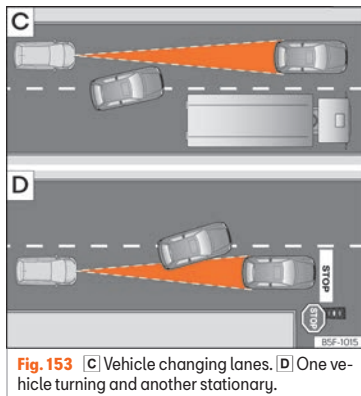

Fig. 153 [C] Vehicle changing lanes. [D] One vehicle turning and another stationary.
- Vehicles that move into your lane, a short distance from your vehicle » » » Fig. 153 [C].
The ACC does not react to stationary vehicles. If, for example, a vehicle detected by the ACC turns or moves over and there is a stationary vehicle in front of it, the ACC will not react to the second vehicle »» Fig. 153 [D].